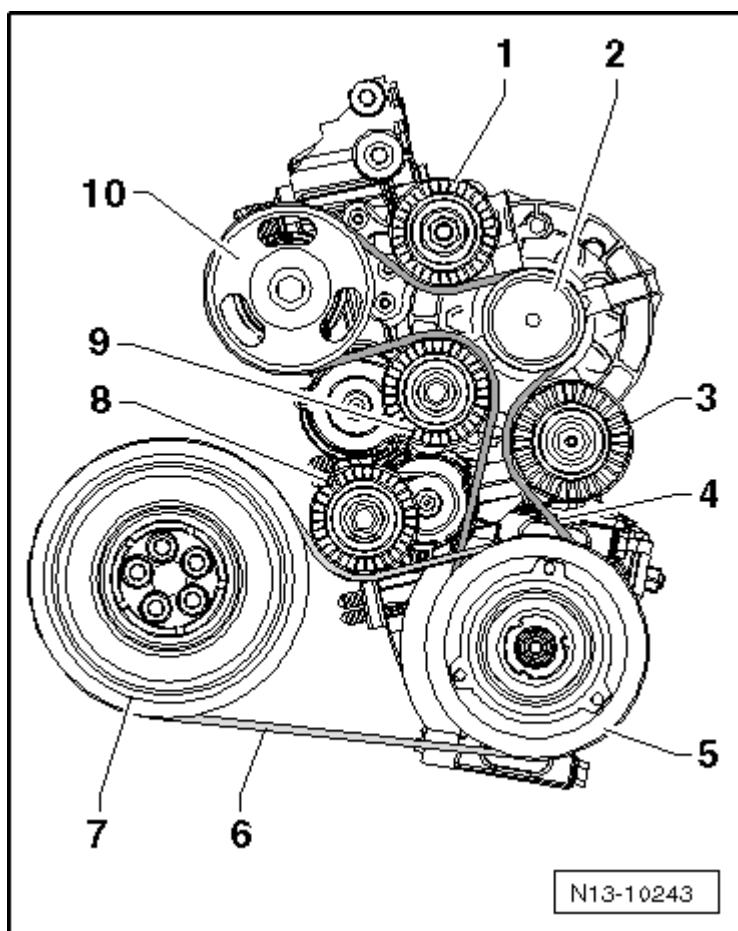

Fig. 4: Ribbed Belt Routing**Courtesy of VOLKSWAGEN GROUP OF AMERICA, INC.**
- Belt routing, refer to **Fig. 4**.